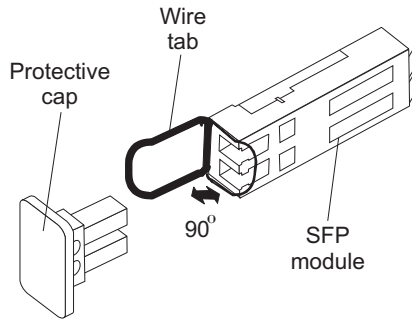

Figure 29. Unlocking the SFP module latch - wire variety
- For SFP modules that contain wire tabs, unlock the SFP module latch by pulling the wire latch outward 90°, as shown in Figure 29 on page 54.